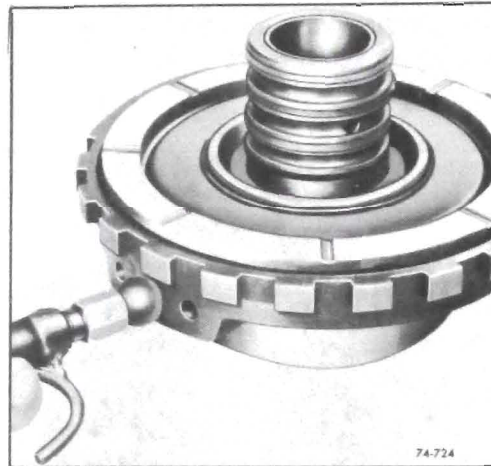

Figure 76-724
8. Air check operation of intermediate clutch piston. See Figure 76-724.